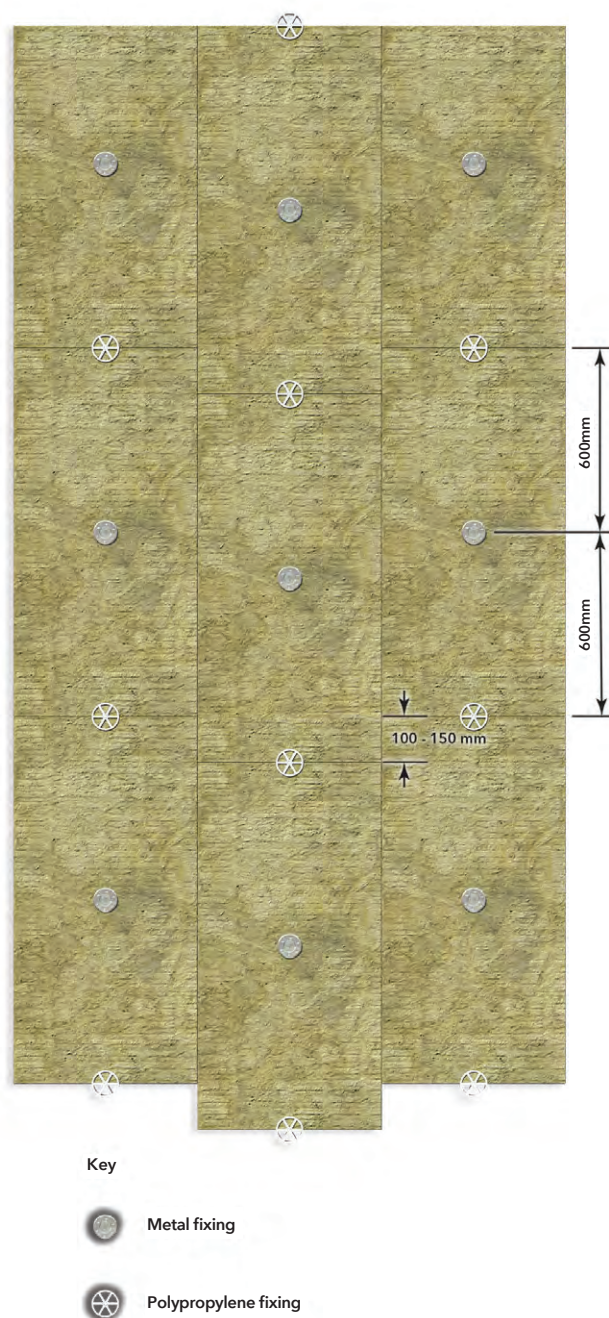

Figure 1: Typical fixing pattern with 3 fixings per square metre
- Fixings should have a minimum head diameter of 70mm. A typical fixing pattern has three fixings per square metre with one metal fixing at the centre of every slab (see Figure 1).